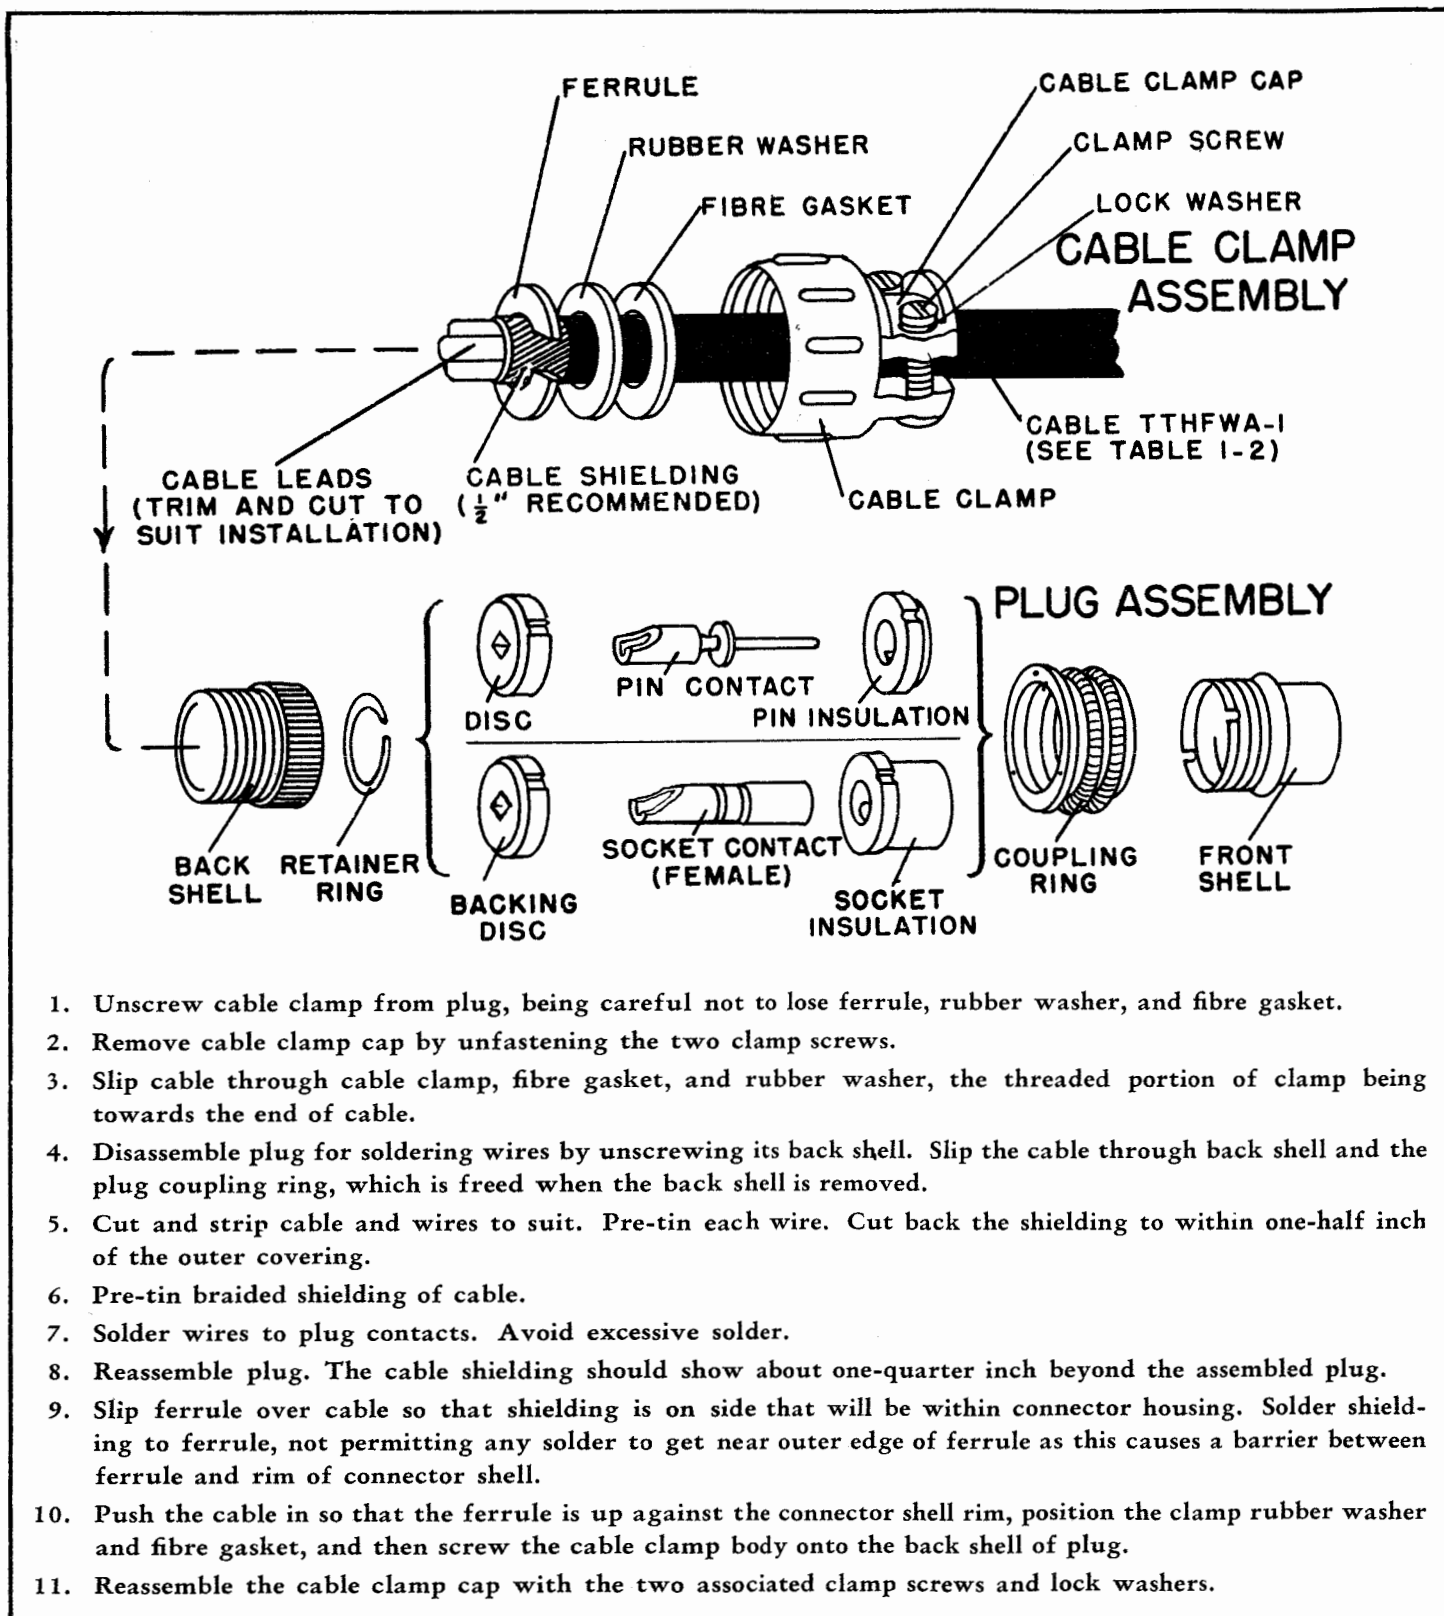
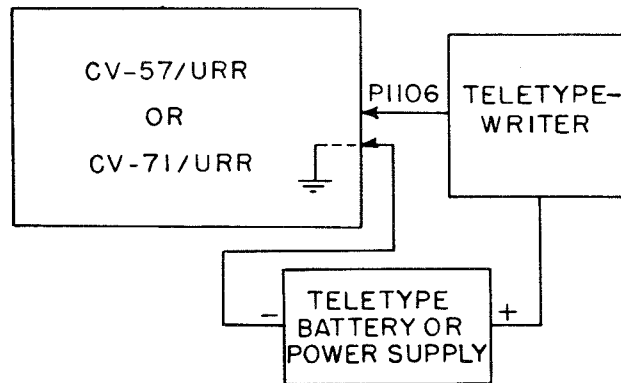

Figure 3-12. Cable Fabrication Instructions, Multi-Conductor Cable
Figure 3-13. Teletypewriter Loop Circuit, Block Diagram
For multi-conductor cable fabrication refer to Figure 3-12. To disassemble the plug, first unscrew its associated cable clamp on the back of the plug. Be careful not to lose the ferrule seated inside the cable clamp, between the clamp and plug. Refer to Figure 3-12 for further details.
(3) TELETYPEWRITER OUTPUT CABLE.—Remove plug P1106 from TTYP OUTPUT jack J1106, disassemble and, using two-wire cable, connect leads to A and B. Note that pin B is grounded inside the Converter. If using single-conductor shielded wire, solder conductor to A and shield to B. Reassemble plug and replace on TTYP OUTPUT jack J1106. The teletypewriter loop current must be supplied from external teletype battery or power supply. The negative side of the teletypewriter loop is grounded in the Frequency Shift Converter CV-57/URR. See Figure 3-13.
(4) SIGNAL INPUT (I-F INPUT) PLUG P1111.—Remove plug from I-F INPUT jack J1111 and disassemble. Using 70-ohm coaxial cable, solder the center conductor to the plug center, and the shield to the plug shell. Reassemble plug and engage in jack. The other end of the cable goes to the associated receiver by way of Receiver-Coupling Kit, Navy type 10563.
The equipment is delivered with the mating plugs (and their associated cable clamps and ferrules) connected to their corresponding receptacles (jacks) on the unit. Remove each plug, one at a time, when it is ready for cable fabrication. For single-conductor cable fabrication refer to Figure 3-11 and Table 1-2. For multi-conductor cable fabrication refer to Figure 3-12. To disassemble the plug, first unscrew its associated cable clamp on the back of the plug. Be careful not to lose the ferrule seated inside the cable clamp, between the clamp and plug. Refer to Figure 3-12 for further details.
(4) **TELETYPEWRITER CABLE.**—Remove plug P1304 from TYP OUTPUT jack J1304, disassemble, and using two-wire cable, solder leads to A and B as shown in Figure 3-12. The teletypewriter loop current must be supplied from external teletype power supply as shown in applicable installation drawing. The negative side of the teletypewriter loop is grounded in the Frequency Shift Converter-Comparator Group AN/URA-6 or AN/URA-7. See Figure 3-13. Teletypewriter cables may be connected in the same manner to individual Converter units, if desired, for single-channel operation. See paragraph 5c(3) of this section.